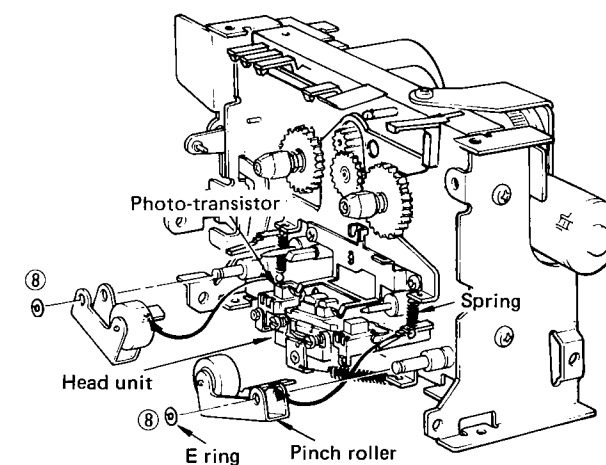

Fig. 5
c. Remove the E ring (⑧) in Fig. 5.